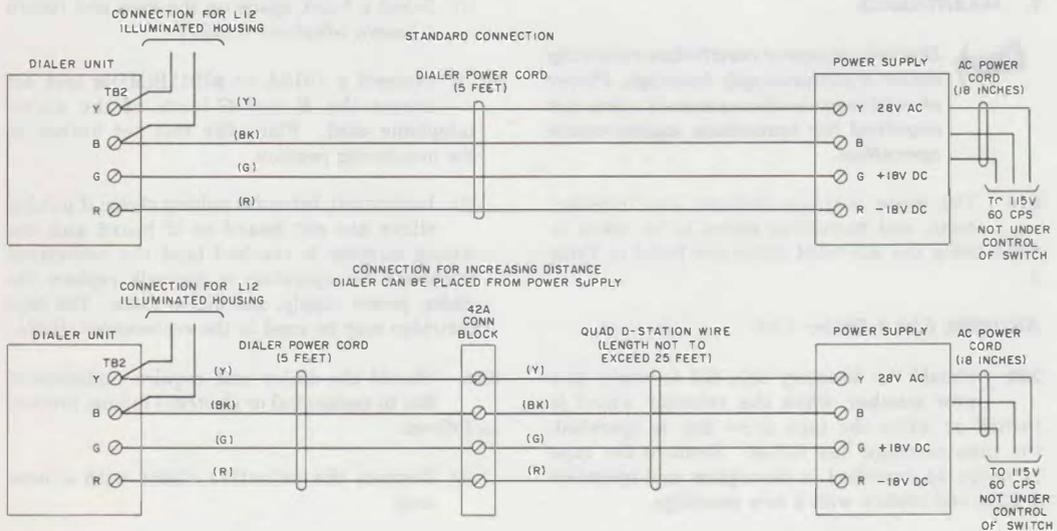

Fig. 1—Power Supply Connections
2.04 Should the dialer fail to operate upon pressing the CALL button, remove the dialer housing in order to check voltages at the terminals shown in Fig. 1. Do not adjust the level of the 18-volt dc supply. If the 18 volts dc differs by more than 2 volts from its normal value, the power supply is probably faulty. In this case, replace both dialer and power supply units.